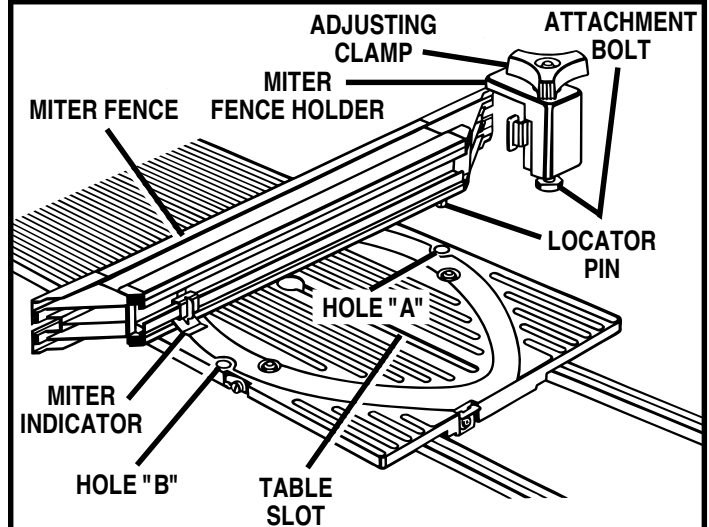

Figure 11: Miter Fence Installation
2. To install the miter fence holder to the miter fence, loosen the attachment bolt by turning the adjusting clamp (the knob on top) counterclockwise. Make sure the adjusting clamp is loose enough so the bolt has enough clearance to slide in the table slot. Slide the tabs into the grooves in the miter fence. *See Figure 11.*